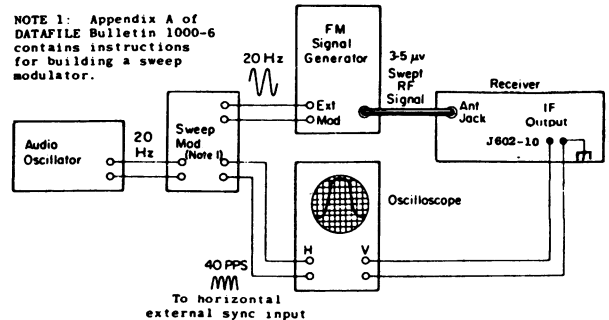

Figure 4 - Test Setup for 20 Hz Double-Trace Sweep Alignment
1. Attach an oscilloscope probe to IF AMP. MTR. (J602-10). (Refer to Figure 4).